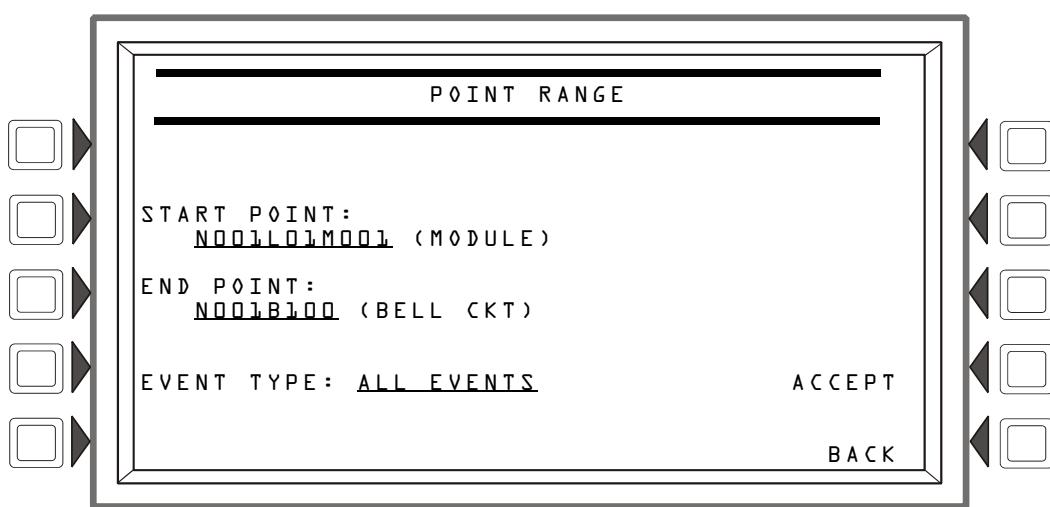

Figure 4.10 Point Range Select Screen
Selecting the **POINT RANGE** soft key on the Local History Select screen sets a range of device points for event display as shown in Figure 4.10 on page 44.
- From the Local History Select screen, press the POINT RANGE soft key (see Figure 4.10).
This example requests a history of all events on Node one only, Loop one only, for all modules, panel circuits and bell circuits. Since the start point specifies module device addresses (M001), detectors would not be included in this query as they are first in the device type order. Figure 4.10 shows how this inquiry would appear on the screen.